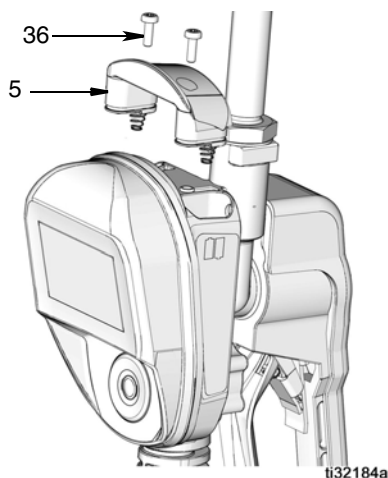

FIG. 49
5. Replace cover (5) and screws (36). Do not over-tighten screws (FIG. 49).